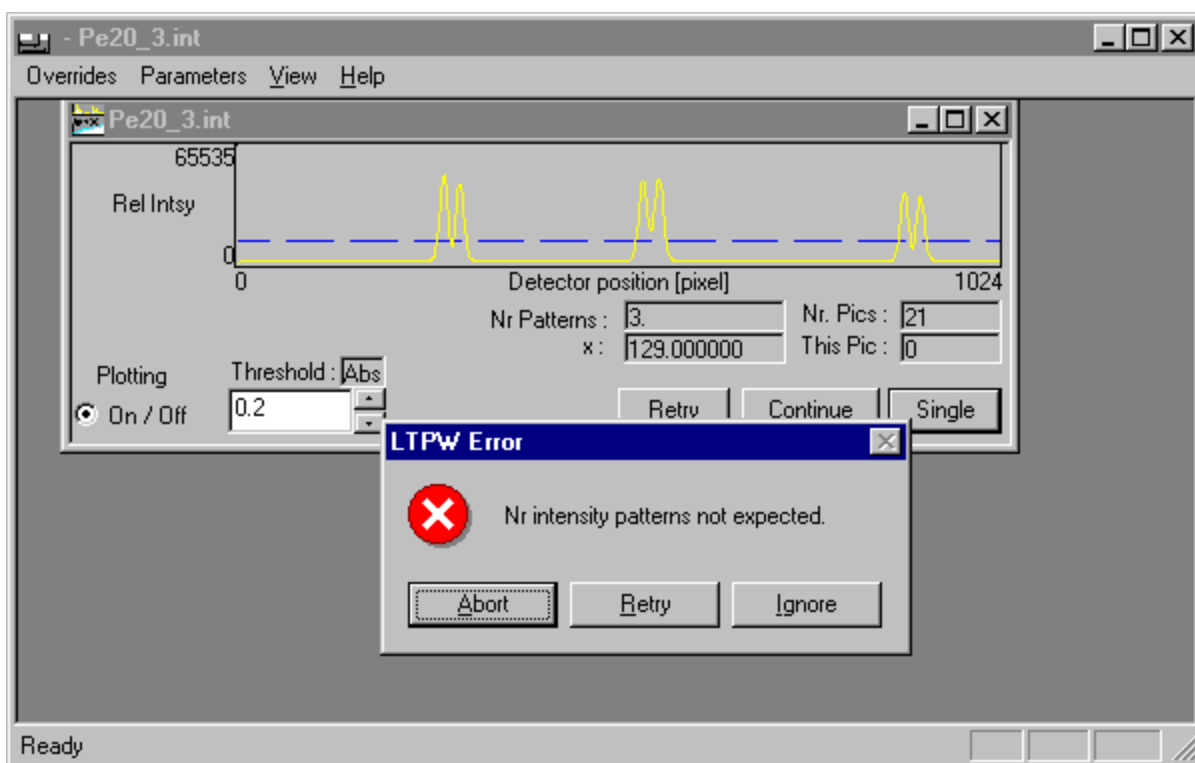

Figure 4.2 Oops; the threshold might be set too high.
4.2.2 If the error message "Nr intensity patterns not expected" pops up, then click on "Ignore" and adjust threshold to a value that will probably work better (Figure 4.2). Make sure that the box "Nr. Patterns" contains the correct sequence of patterns. See Appendix B for more explanation.